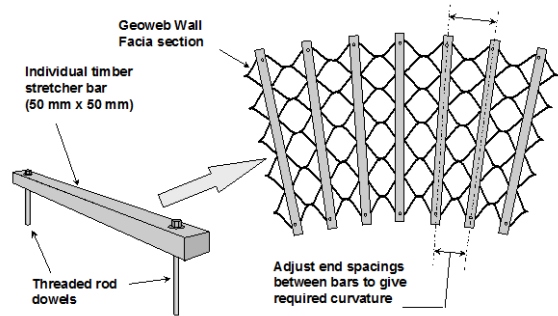

Figure 2 Stretcher Bars for Straight and Curved Wall Sections
- **Option 1:** For both straight and curved wall alignments, insert a series of individual stretcher bars into the expanded Geoweb® section, position and fill. See Figure 2 and Figure 12.